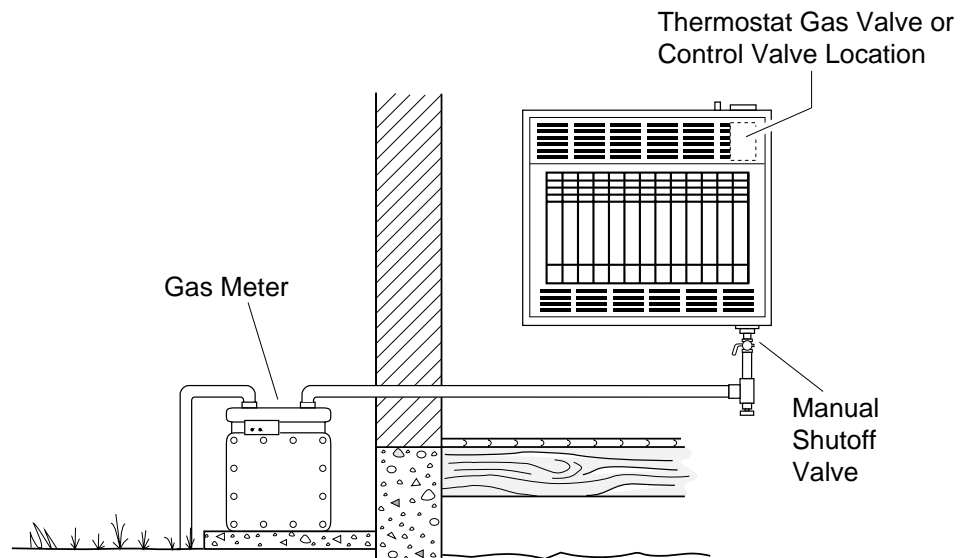

Figure 15 - Checking Gas Joints
3. Check all joints from gas meter to manual shutoff valve (see Figure 15). Apply mixture of liquid soap and water to gas joints. Bubbles forming show a leak.
4. Check all joints from manual shutoff valve to thermostat gas valve (models VN2000BTA and VN2800BTA) or control valve (model VN2000BA) (see Figure 15). Apply mixture of liquid soap and water to gas joints. Bubbles forming show a leak.